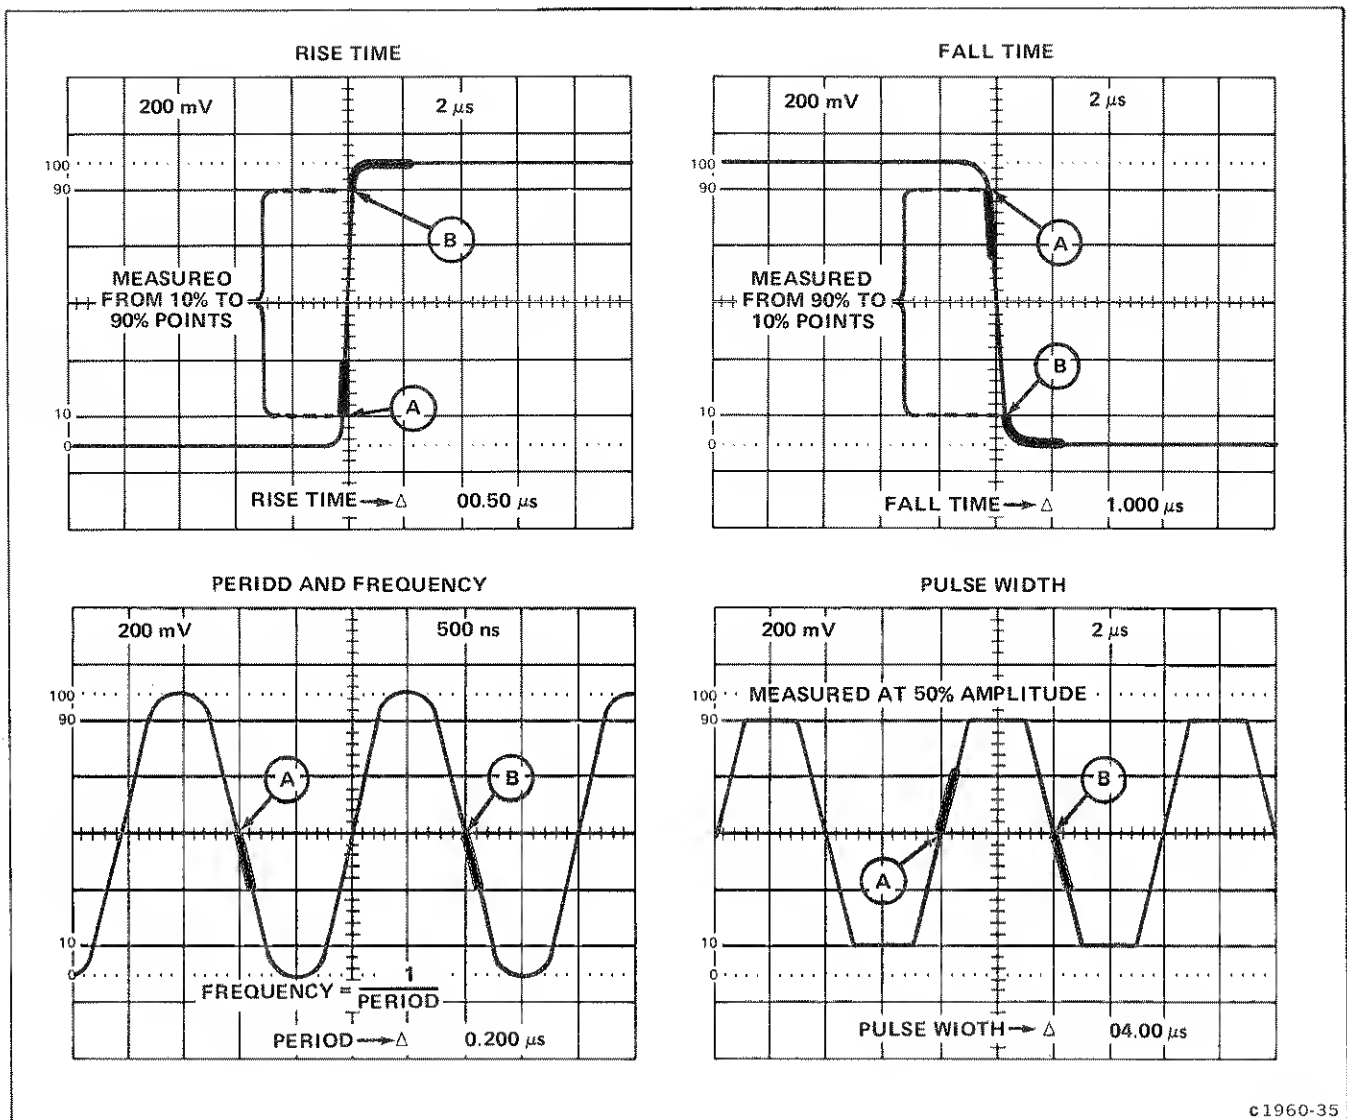

Figure 2-8. Measuring risetime, fall time, period, frequency, or pulse width in the  $\Delta$  (differential) time mode.
6. Set the appropriate triggering, position, deflection-factor, and sweep-rate controls to obtain the desired display. See the examples in Figure 2-8.
7. Adjust the DELAY TIME control to position the leading edge of the first intensified zone to the beginning of the time interval to be measured (see Fig. 2-8, point A).
9. Adjust the  $\Delta$  TIME control to position the leading edge of the second intensified zone to the end of the time interval to be measured (see Fig. 2-8, point B).